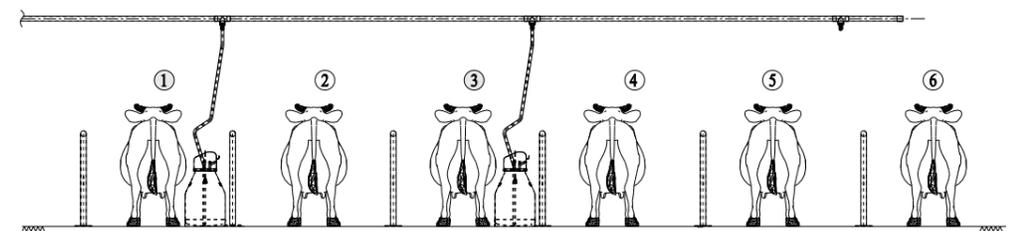

Figure 5.4
Step-2: Attach the milking cluster to animals ① & ①. Refer Figure 5.4.